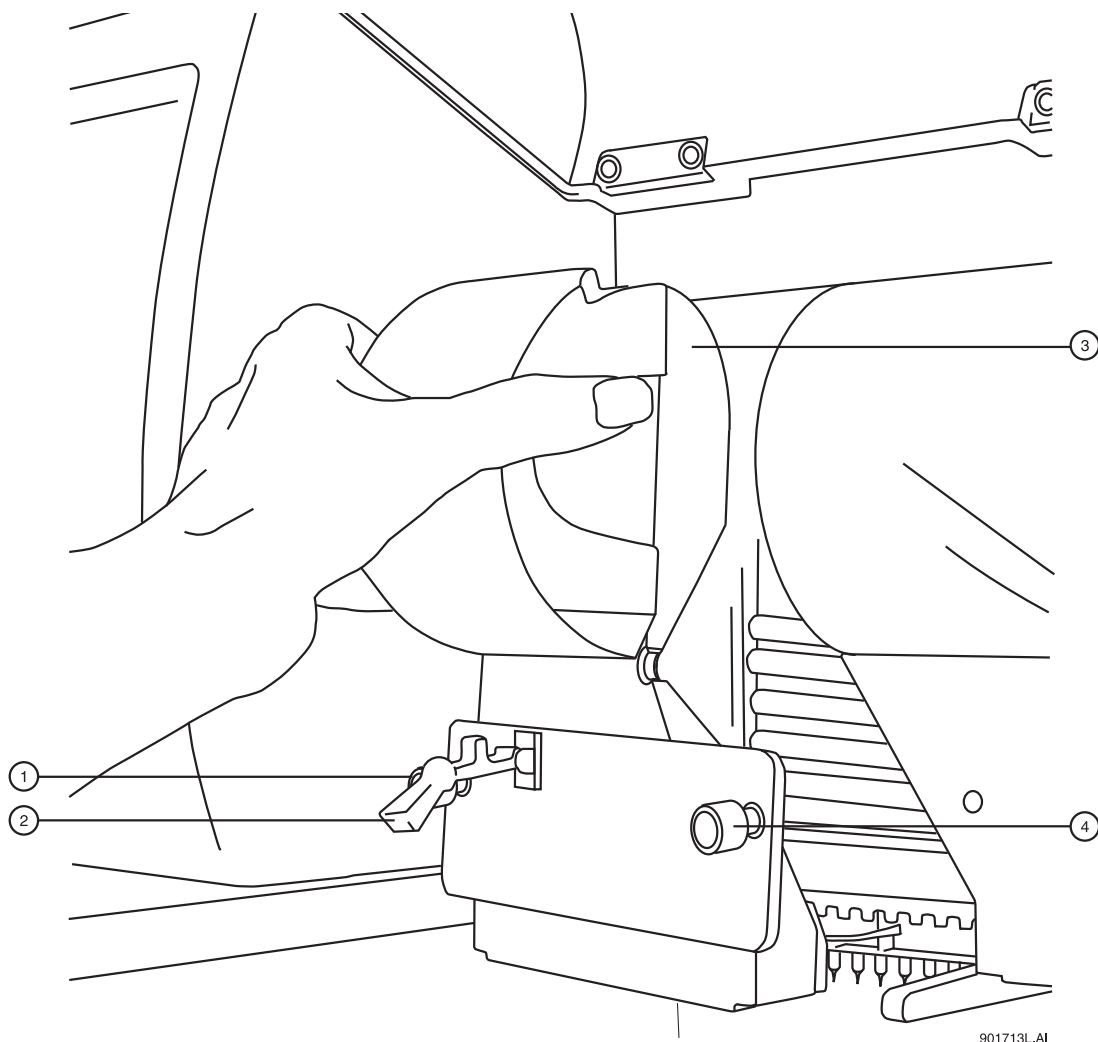
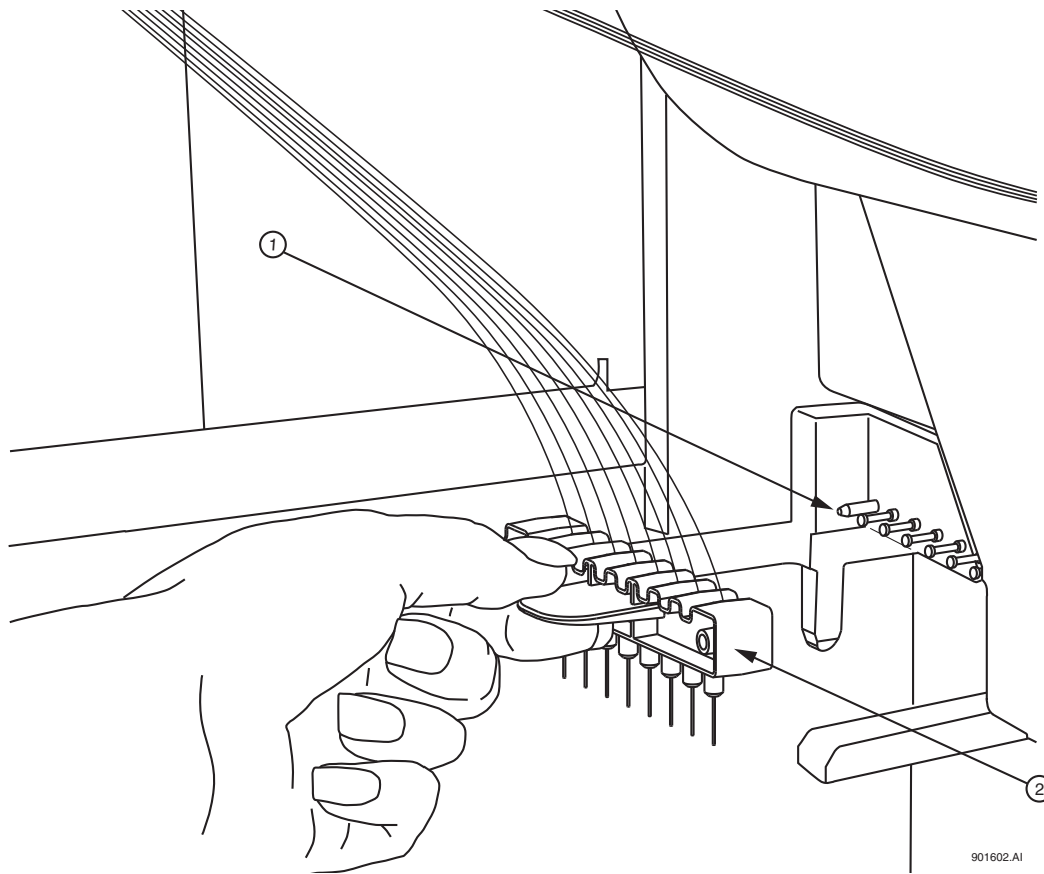

Figure 9.33 Plenum Assembly Removal
Figure 9.35 Removing/Replacing the Electrode Block
6. Loosen the two plenum assembly captive screws (Figure 9.33), pull the plenum assembly straight back and away from the instrument and set it aside.
7. Lift the plenum assembly (Figure 9.33) to release the Array Fitting.
8. Grasp the Array Fitting tab (Figure 9.33) and then:
12. While holding the electrode block tab, align the electrode block (Figure 9.35) with the guide block pins and gently push it in until resistance is met. (The resistance is from the spring-loaded contacts.)
13. When installing the capillary array, carefully route the capillaries through the hole in the plenum assembly (Figure 9.33) and straight across into the guide block pins (Figure 9.35).